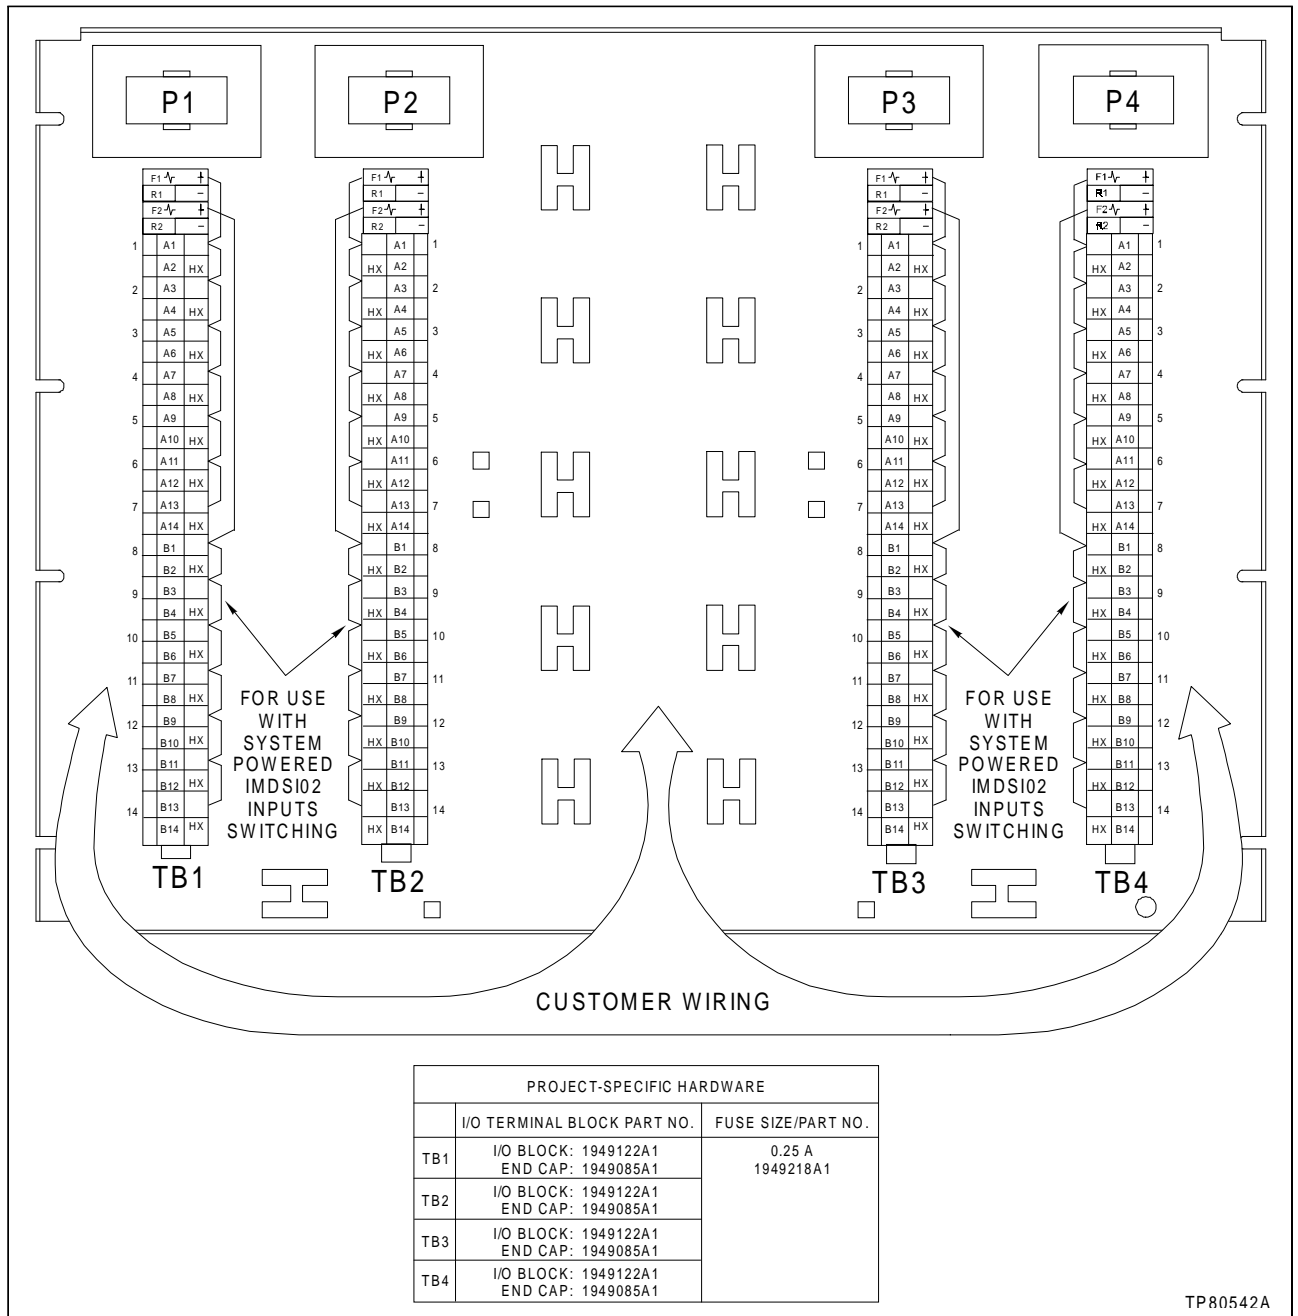

Figure 2-2. Digital Inputs; Compression Straight-Through Terminal Blocks
**Figure 2-2** This example shows the RTS system installed for digital inputs to an IMDSIO2 digital input module using one of the compression straight-through style terminal blocks available.